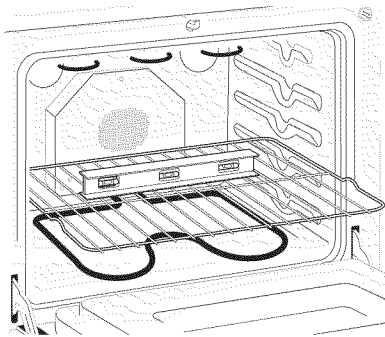

Figure 9
2. Place a level on the rack (see figure 9). Take 2 readings with the level placed diagonally in one direction and then the other. Level the range, if necessary, by adjusting the 4 leg levelers with a wrench (see Figure 14).